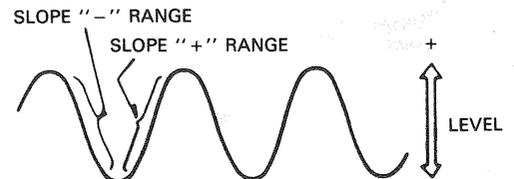

Fig. 10
- (3) After the COUPLING has been set, the trigger point can be set by rotating LEVEL/SLOPE control (25).
Trigger point on waveform is adjusted by the LEVEL/PULL (25) control. Fig. 10 shows the relationship between the SLOPE and LEVEL of the trigger point. Triggering level can be adjusted as necessary.